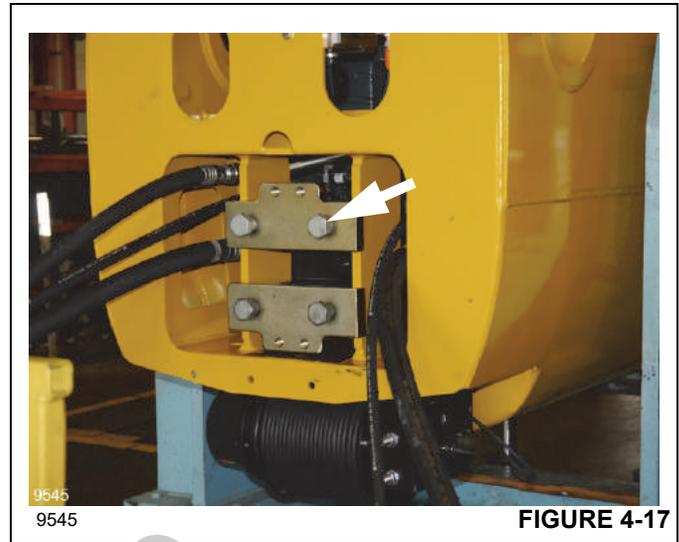

FIGURE 4-17
1. Connect a strap to tele 1, then using an overhead lifting device or another crane, lift tele 1 so the strips (13), holders (10), and wear pads (5, 6, 7, 8, 9) can be installed.
7. Climb inside the base section and remove the tie straps restraining the cylinder hoses. Route the hoses out the rear of the base section as shown in Figure 4-17.
8. Secure the tele cylinder with the four cylinder retaining bolts (Figure 4-17) and two retaining plates.